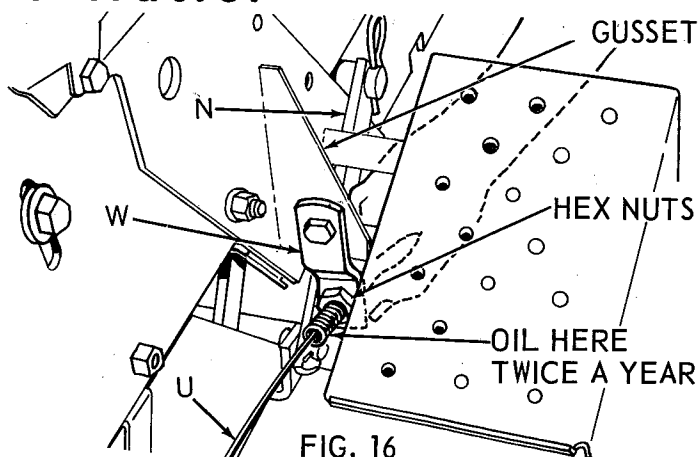

FIG. 16
9. Refer to Fig. 16. Swing cable (U) around so that it will be between R.H. front pivot link (N) and R.H. front tractor tire.
11. Refer to Fig. 16 & 17. Slip cable clevis (A) with pin on clutch lever (mower) (V) on tractor, as shown. Attach clutch cable anchor (W) to gusset Fig. 16 on R.H. foot rest of tractor, with a 3/8 x 1 hex bolt, lockwasher, and hex nut provided. NOTE: Make sure cable anchor (W) hangs straight down as shown. Tighten bolt securely. Make sure hex nuts on cable are tight against cable anchor.
3. Refer to Page 6, Fig. 16. Lubricate cable with light oil, twice a year.